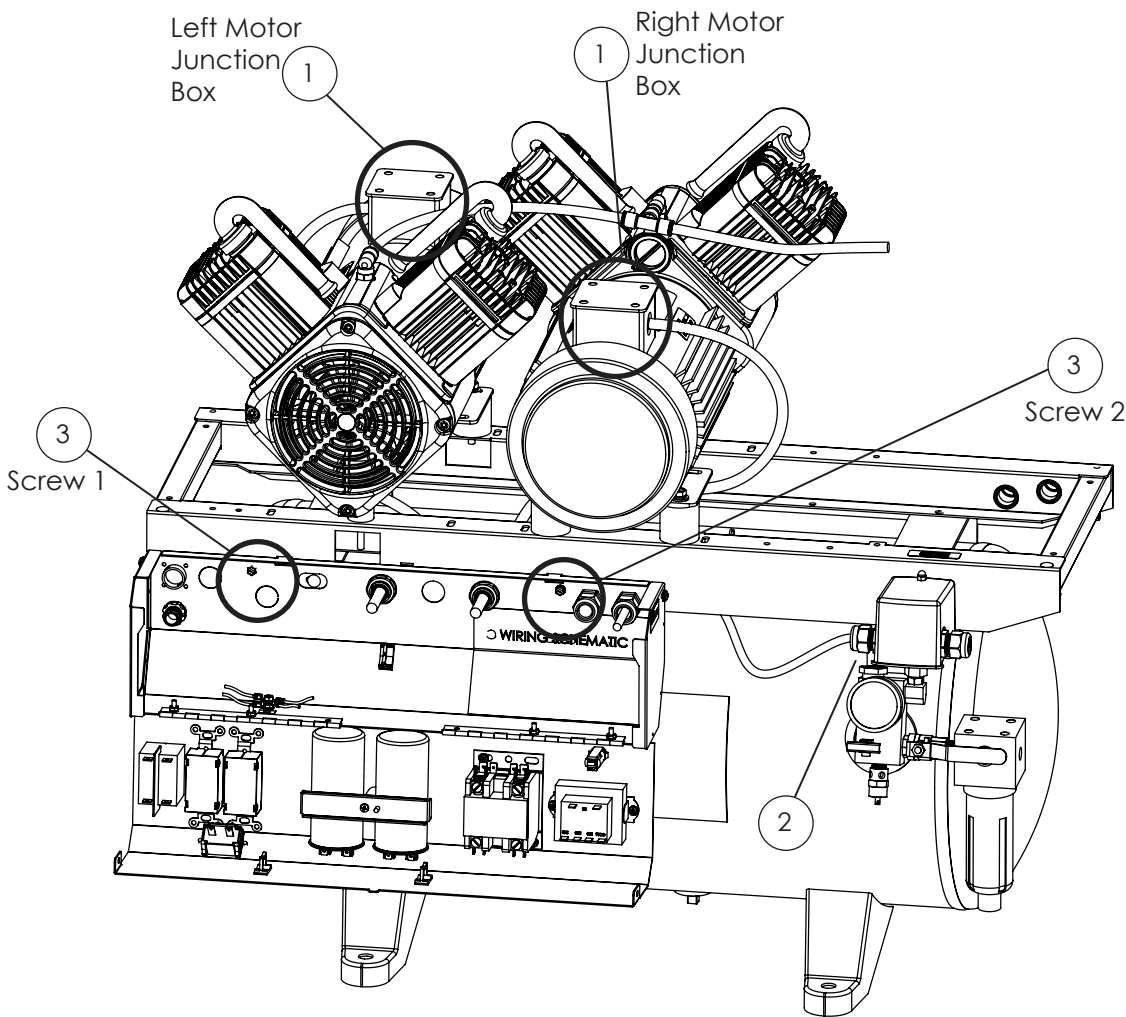
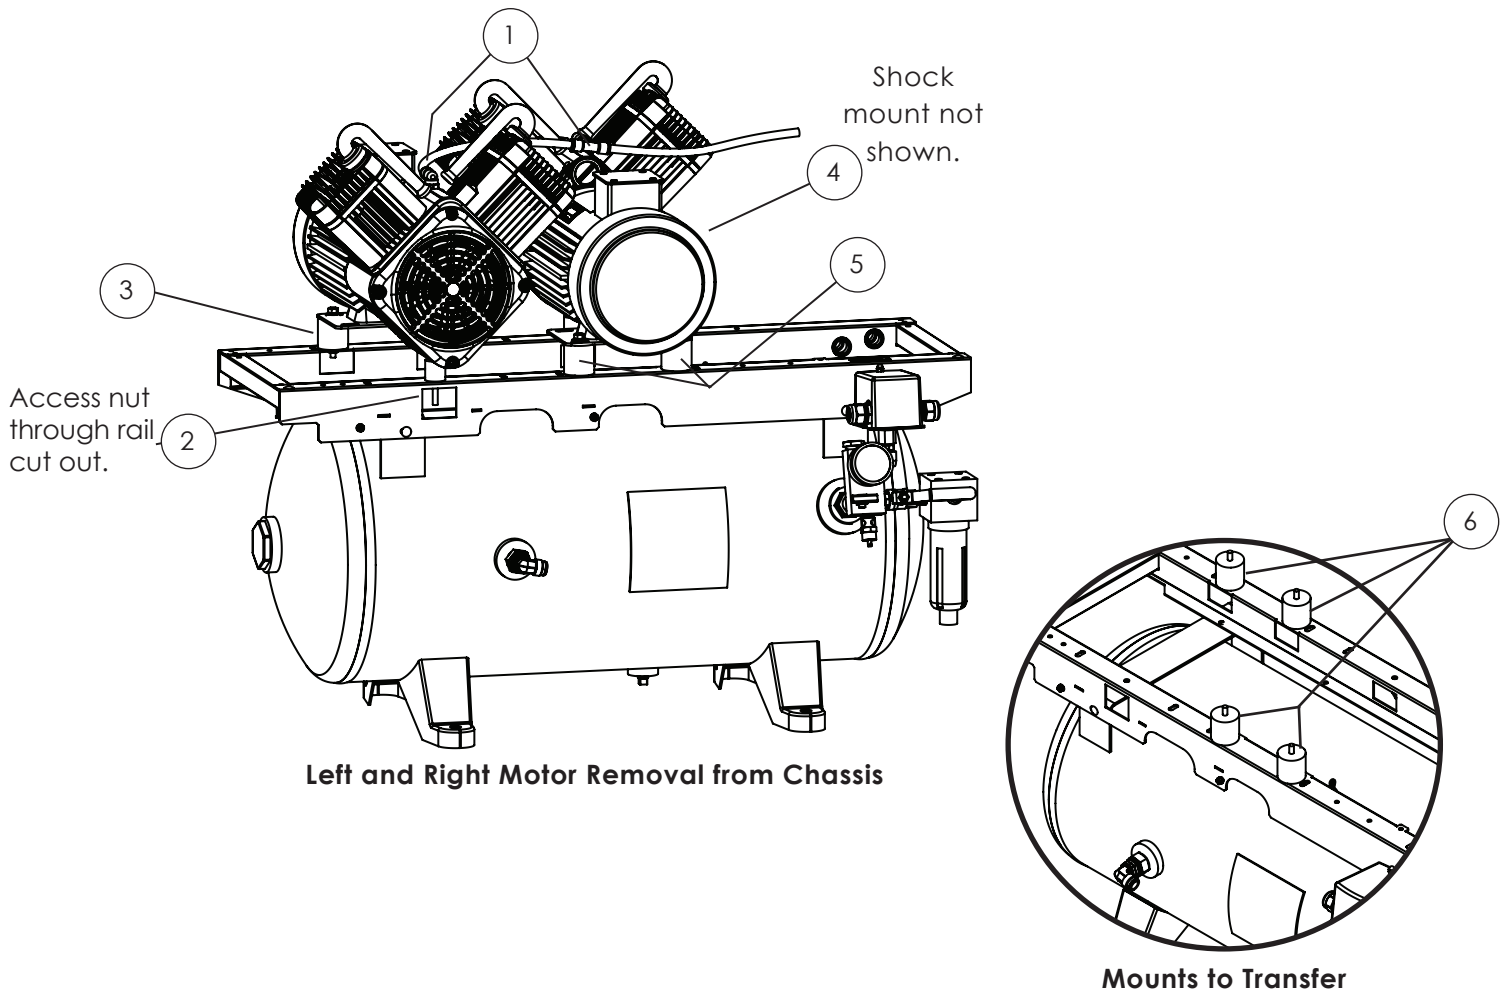

Figure 3. Electrical Box Removal from Chassis
Figure 4. Motor and Mounts Removal from Chassis
Step 5: Install Left and Right Motors (See Figure 4)
2. Lower the right motor onto the shock mounts. Using the two (2) nuts and washers, secure the right motor to the two (2) shock mounts installed on the chassis rail.
4. Lower the left motor onto the shock mounts. Using the two (2) nuts and washers, secure the left motor to the two (2) shock mounts installed on the chassis rail.
Step 6: Install the Electrical Box (See Figure 3)